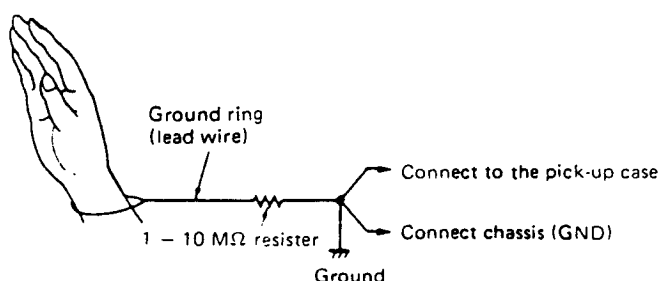

Fig. 19
(2) Notes on handling the unit mechanism (Fig. 19)
When handling the pick-up mechanism or unit mechanism, use the ground ring as shown in Fig. 19.